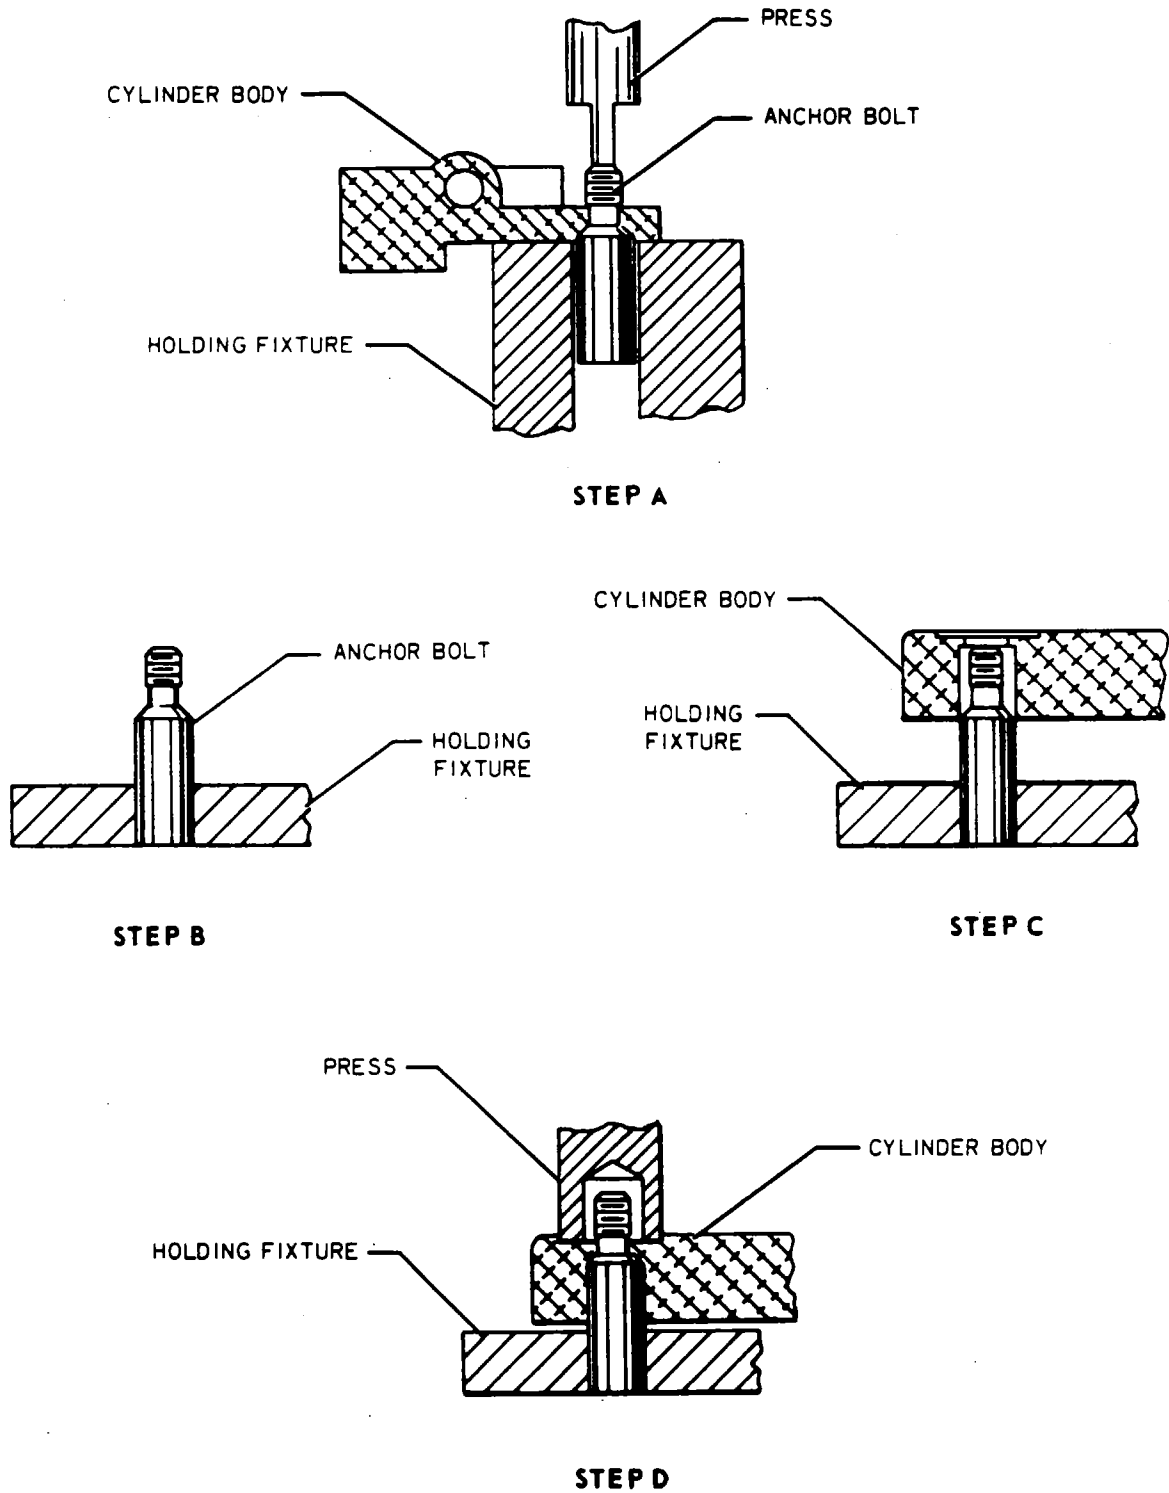

Figure 7-22. Removal and Installation of Anchor Bolts
- d. Remove the pressure plate (6) by sliding off the anchor bolts of the housing.
- 1. Position cylinder assembly on a holding fixture. (Refer to Figure 7-22. Step A.)
1. Support anchor bolt in a holding fixture. (Refer to Figure 7-22, Step B.)
2. Align cylinder body over anchor bolt. (Refer to Figure 7-22, Step C.)
3. Using a suitable arbor press, apply pressure on the spot face directly over the anchor bolt. (Refer to Figure 7-22, Step D.)